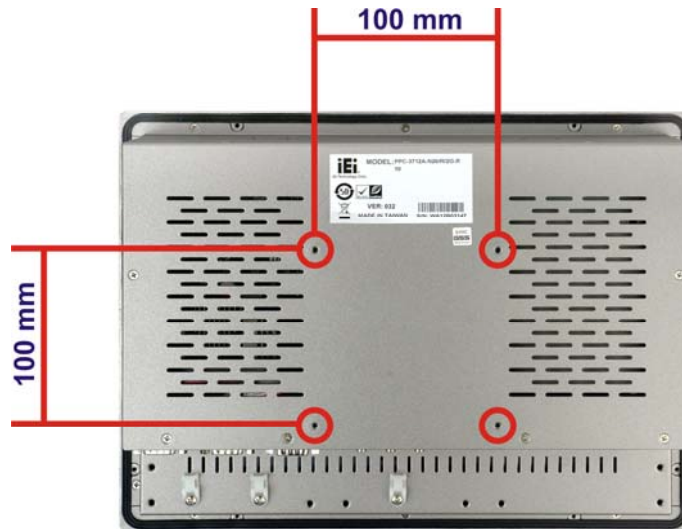

Figure 3-37: Arm Mounting Retention Screw Holes
Step 3: Align the retention screw holes on the mounting arm interface with those in the PPC-37xxA-N26 panel PC. The arm mounting retention screw holes of the PPC-37xxA-N26 panel PC are shown in **Figure 3-37**.